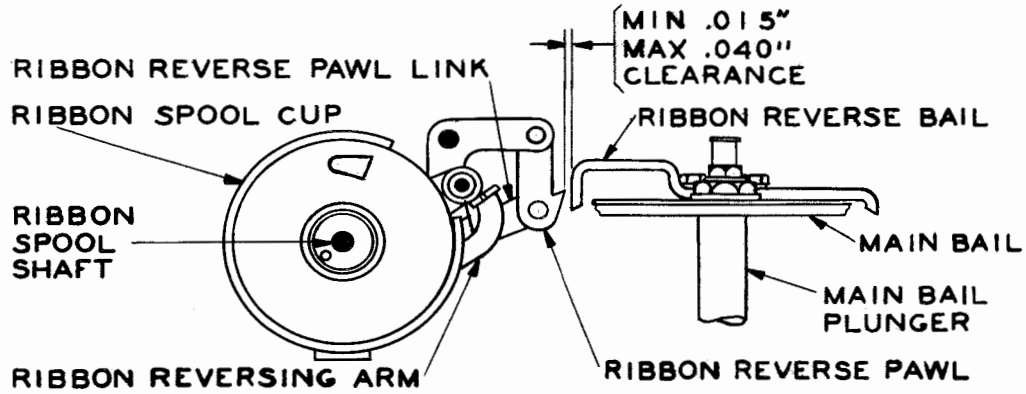

Figure 23
2.50 Ribbon-reverse Pawls shall clear the ribbon-reverse bail by minimum 0.015 inch, maximum 0.040 inch when the associated ribbon-reversing arm is against its ribbon-spool cup. (See Figure 23.)